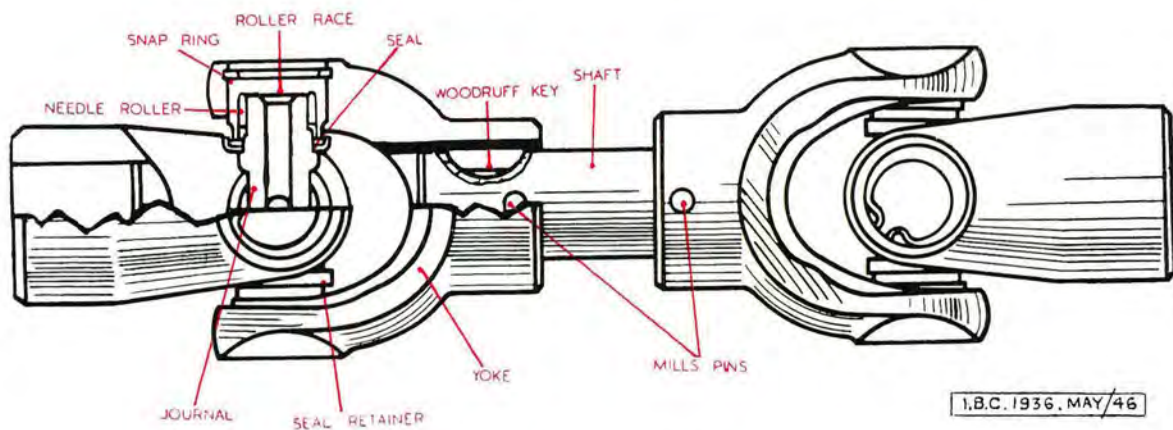

Fig. 103. Coupling shaft
**Steering, intermediate and coupling shaft (fig. 103)**